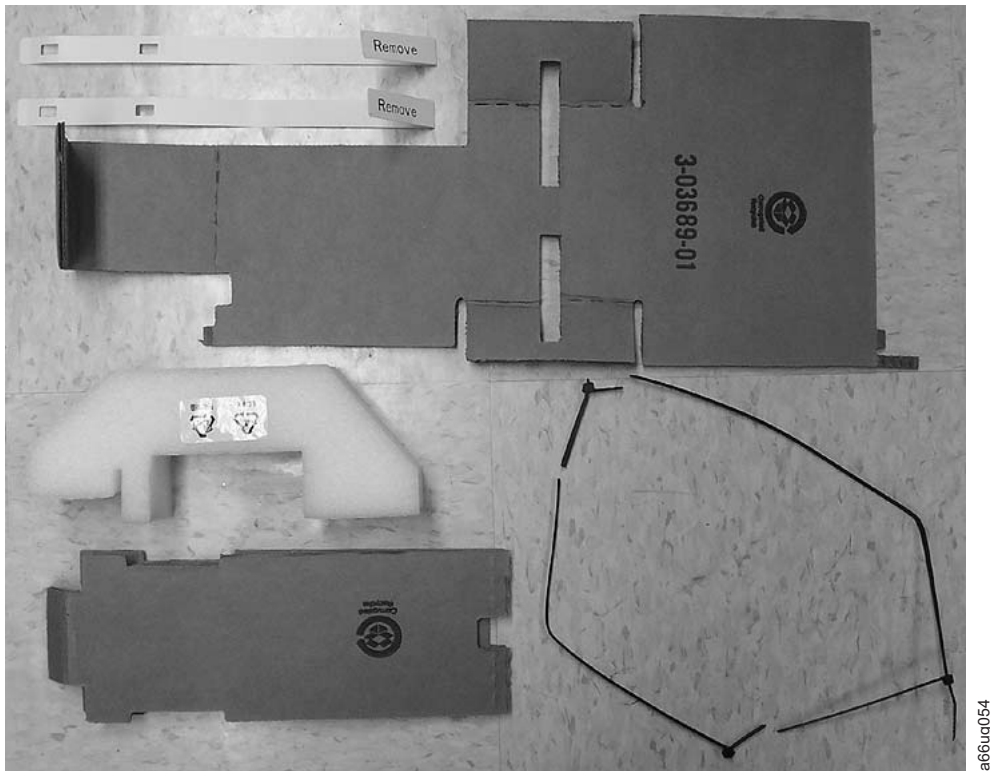

Figure 3-3. Library packaging material pieces
6. Refer to Figure 3-3 and ensure that you have removed all of the packaging material.